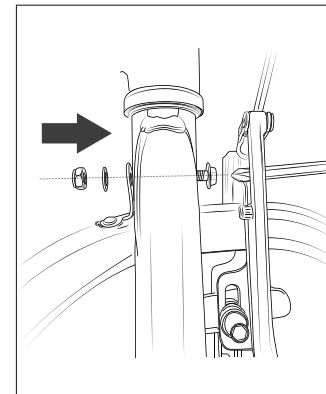

Fig. 10
2. Slide the fender in place from the back of the fork. Insert the long bolt through the top/center fork hole from the front of the bike. At the rear of the fork hole, place the bolt through the fender mounting tab with the washer and nut. While pushing the fender tab up as far as it will go, tighten the bolt and nut to secure the fender to the top of the fork (**Fig. 10**).